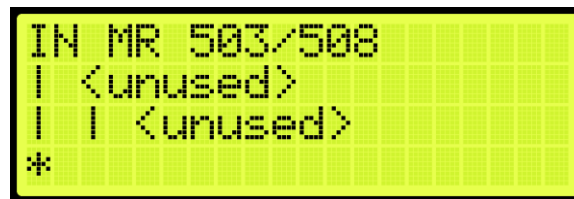

Figure 403: Unused Input/Output
- The number on top indicates which input/output is currently being viewed. For example, Figure 403 shows an example of an unused input.